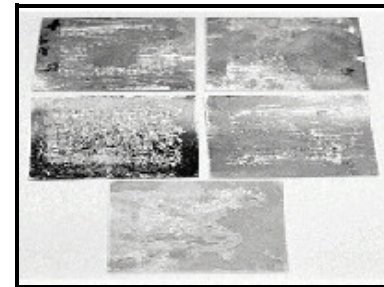

Figure 4
5. Once mica and stainless steel have been cleaned place plate assembly on middle oven rack at approx. 100 to 150 F. for ½ to 1 hour to ensure plates are completely dry. Once dried, mica plate must be inspected. Hold plate up to a light to ensure no arc holes have developed or that any other damage is present (SEE FIG. 4 & 5).